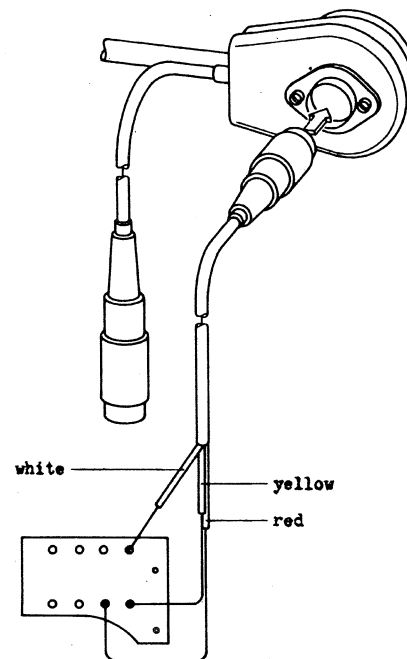

Fig. 223.1
- 3.1 Solder the three wires of the connecting cable to the tag block (see Fig. 223.1).